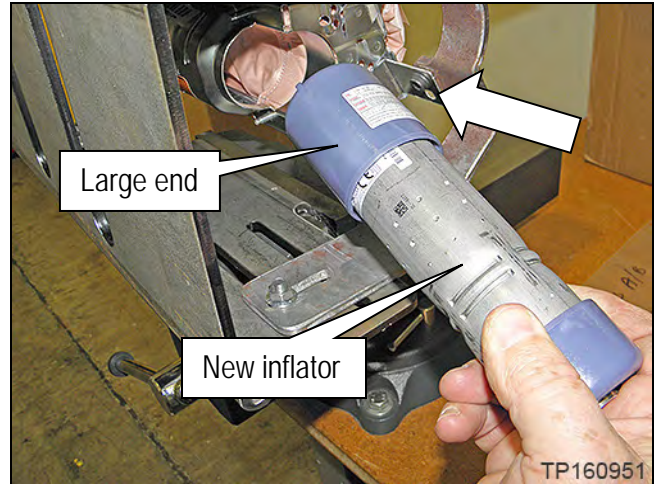

Figure 26
2. Insert the new inflator large end first, as shown in Figure 26 from the right side.